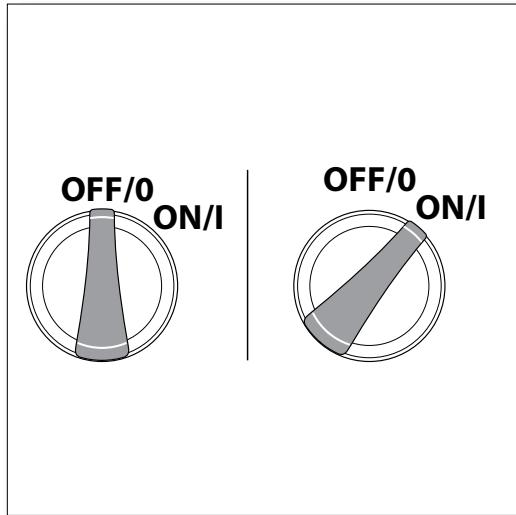

Fig. 20
- Make sure the “ON/OFF” switch is in the “OFF” position. The power switch has international symbols for ‘on’ and ‘off’: On (|) Off (O), (Fig. 20).